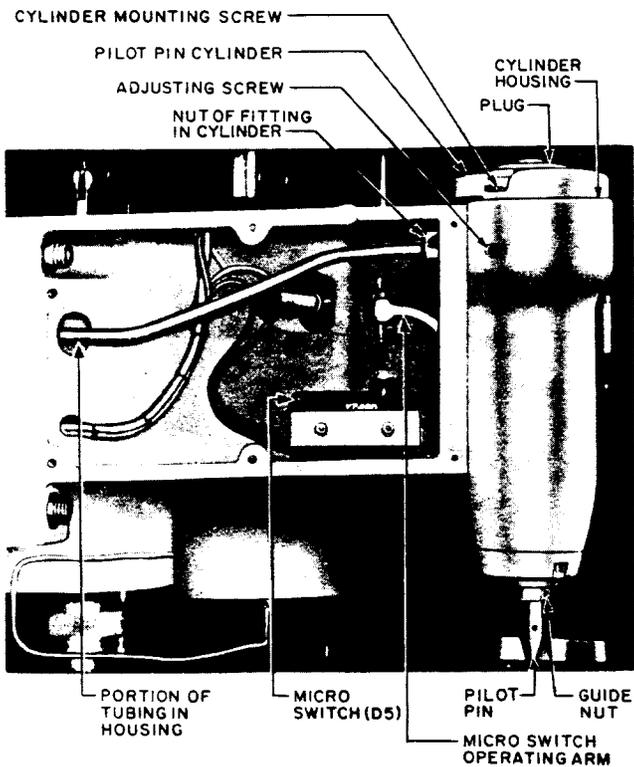

Fig. 5 - Hole-Enlarging Control Unit (cover removed)
5.01 Remove the cover from the left side of the housing of the hole-enlarging control unit using the R-2670 wrench. Unscrew the nut from the fitting in the control unit cylinder (Fig. 5) using the R-1542 wrench.
5.02 Back off the three adjusting screws around the periphery of the cylinder housing (Fig. 5) at least two turns using the